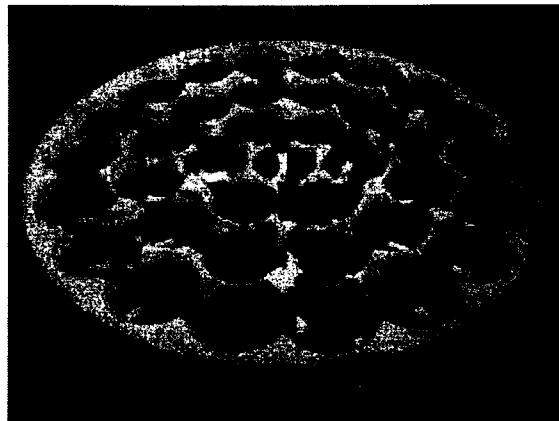

FIGURE Q6
- (c) You are required to fabricate a component as shown in **Figure Q6** by using ultrasonic machining (USM) process. Draw an ultrasonic machine construction that can be used to produce the component. Your answer should consist a schematic diagram of the machine construction and the function of each major machine's elements/components. (10 marks)